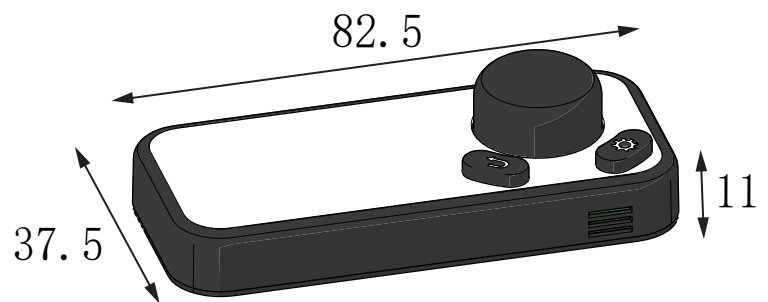

Figure 5
4. Finally, press the top cover firmly onto the back cover as shown in "Figure 5".